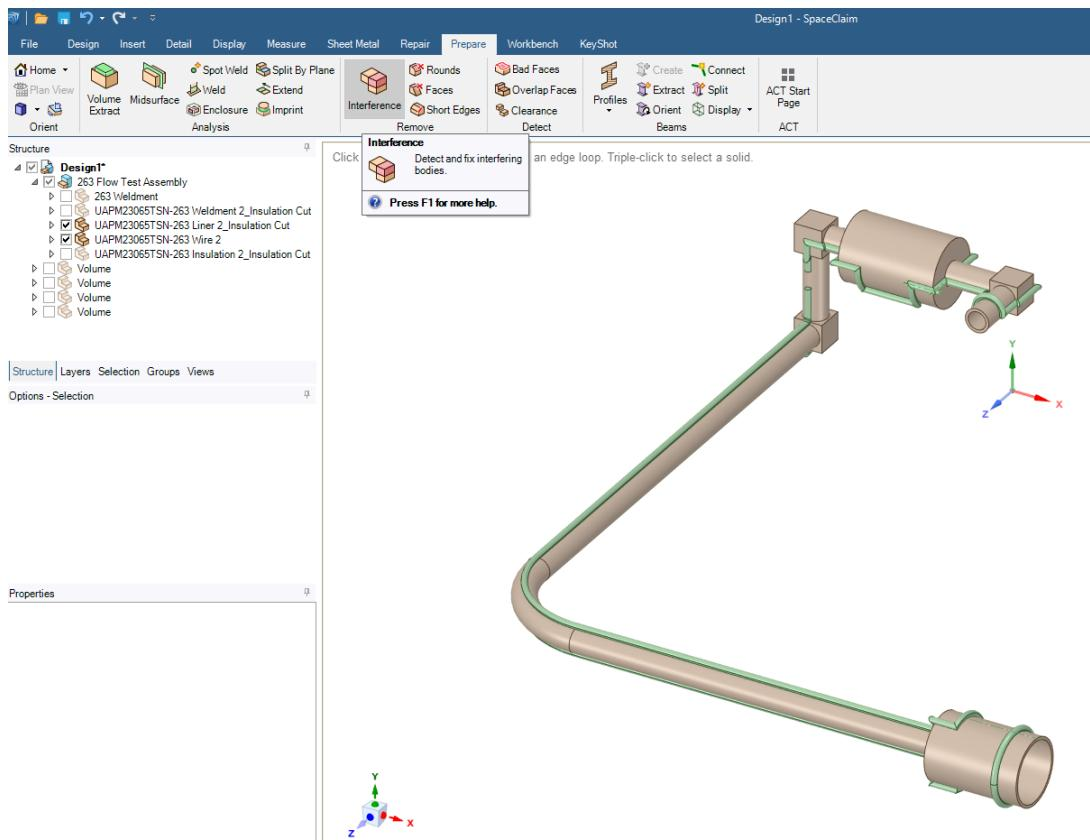
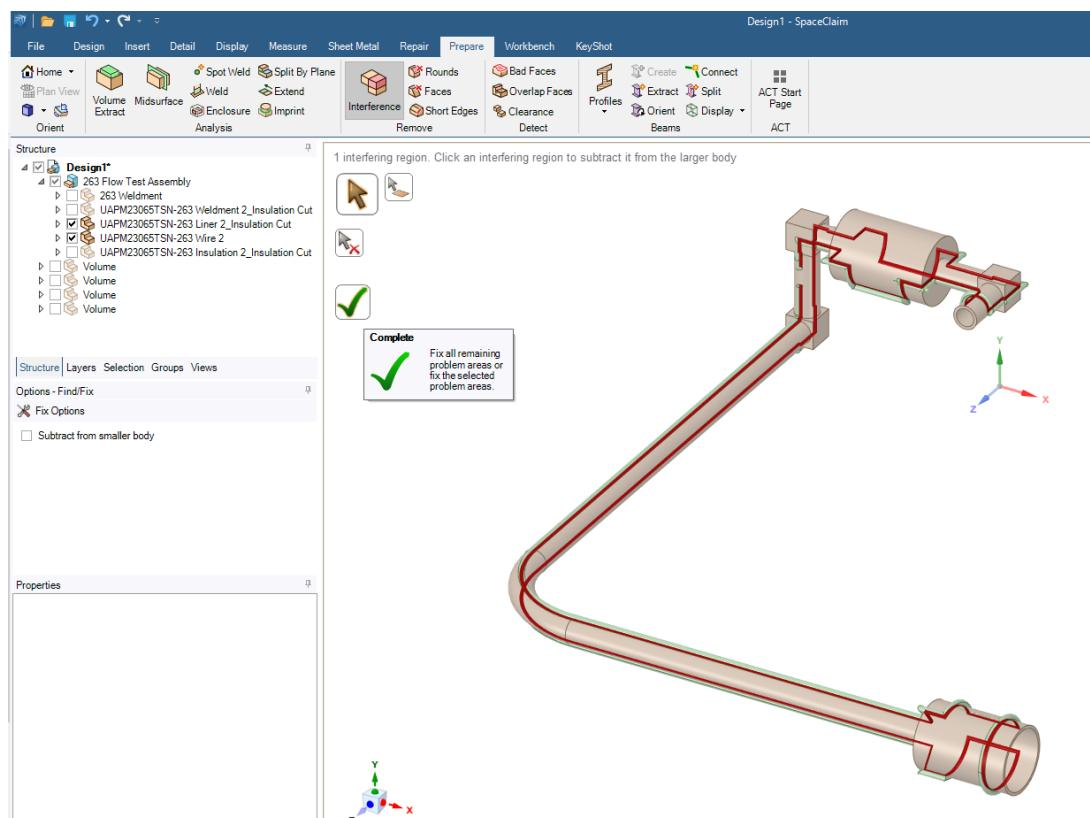

Figure 1.33:
Figure 1.34:
- (ii) With the edges now imprinted we need to create a “groove” or “channel” in the liner that the Wire will lay in/contact our liner with. This can be done by using the Interference Tool under the Prepare Tab (Figure 1.33) to remove the areas where the Liner intersects our Wire. After selecting this function, the area should be highlighted in red where the Wire/Liner intersect as shown in Figure 1.34.